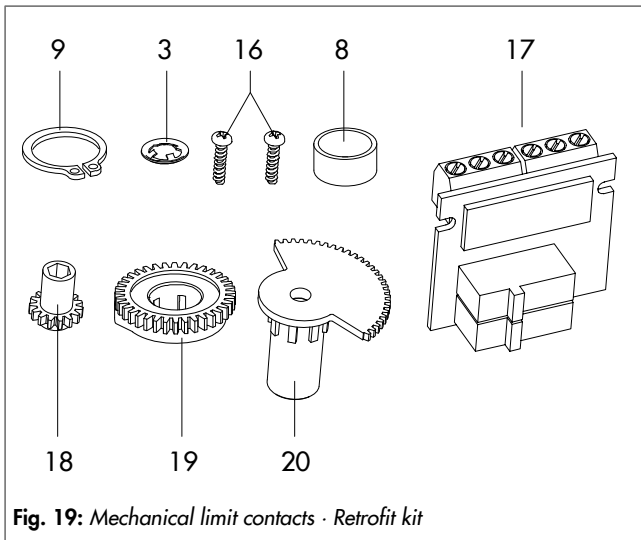

Fig. 19: Mechanical limit contacts - Retrofit kit
- Mechanical limit contacts (see Fig. 19)